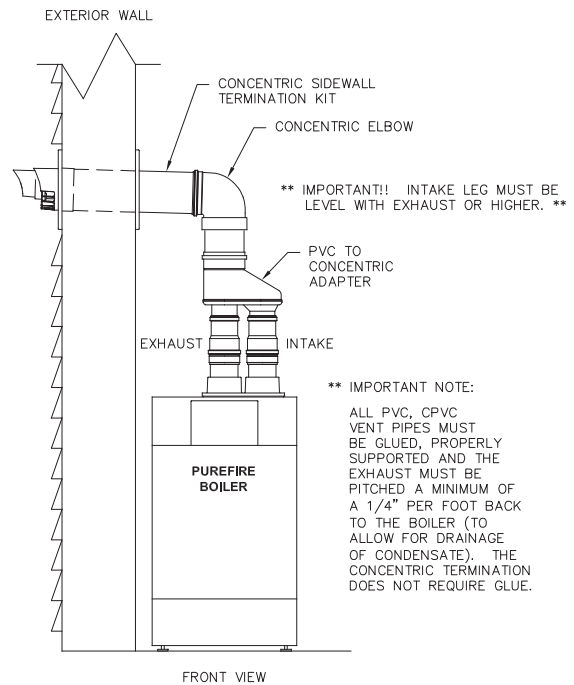

Figure 3.6: Optional Concentric PVC Vent Kit Installation
- Combined systems using PVC which transitions to concentric polypropylene can also be installed. See figure 3.6 and 3.9 for an illustration of the configuration. Table 3.6 provides part numbers for the concentric components.